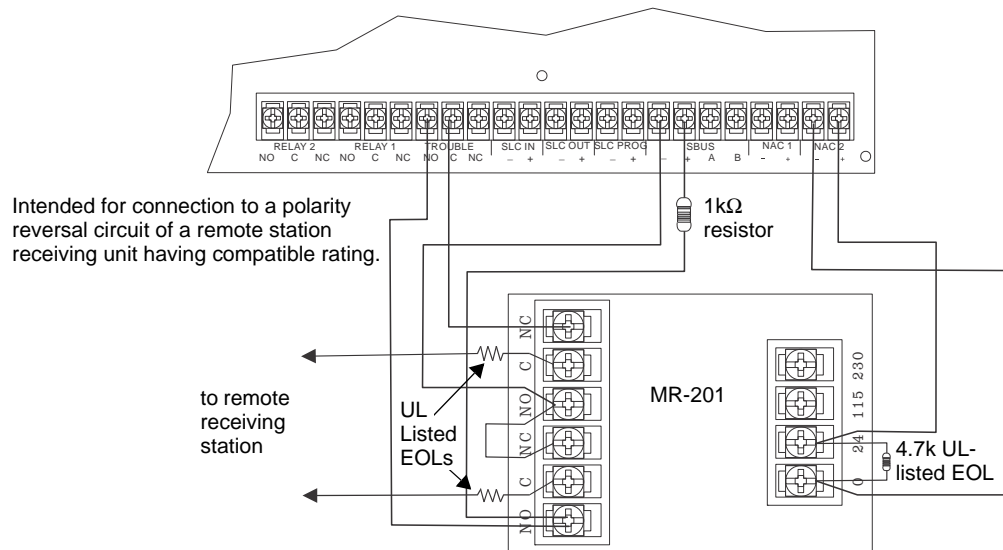

Figure 4.41 Polarity Reversal Connection Using the MR-201/T Relay
1. Wire the MR-201/T as shown in Figure 4.41.